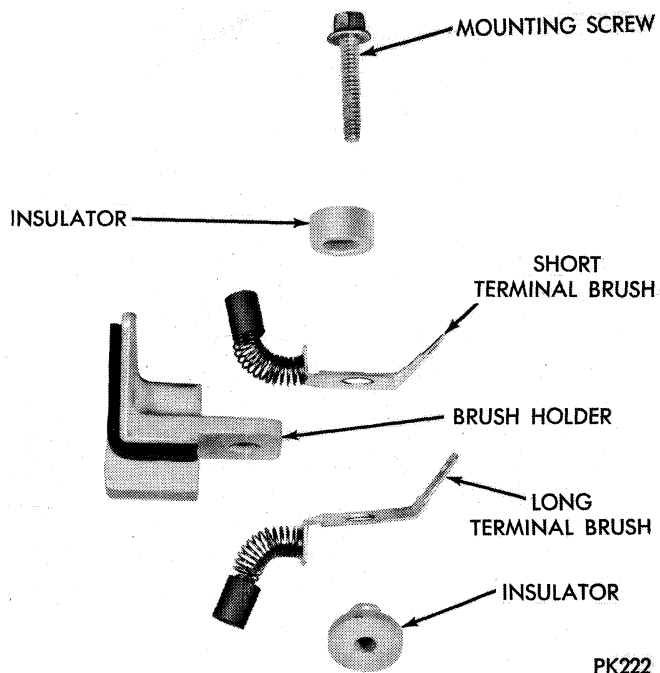

Fig. 66—Assembling Field Brushes
(13) Position rotor and drive end shield assembly over stator and rectifier end shield assembly. Align through bolt holes in rectifier end shield and drive end shield.
(14) Compress stator and both end shields manually and install through bolts. Tighten through bolts evenly to 40-60 inch-pounds torque.
(15) Install field brushes into brush holder, long terminal on bottom, short terminal on top and then install insulators and mounting screw (Fig. 66).
(16) Position brush holder assembly to end shield making sure it is properly seated and tighten mounting screw to 30-40 in.-lbs.